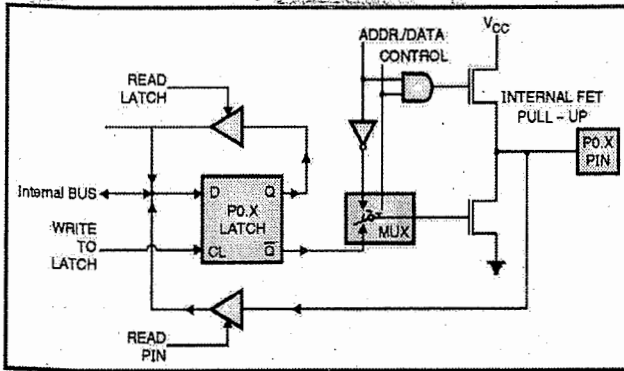

Fig. 1.17.1 : Port 0 circuit
- Fig. 1.17.1 shows Port 0 circuit. Its address is 80H. It is a bit addressable port.